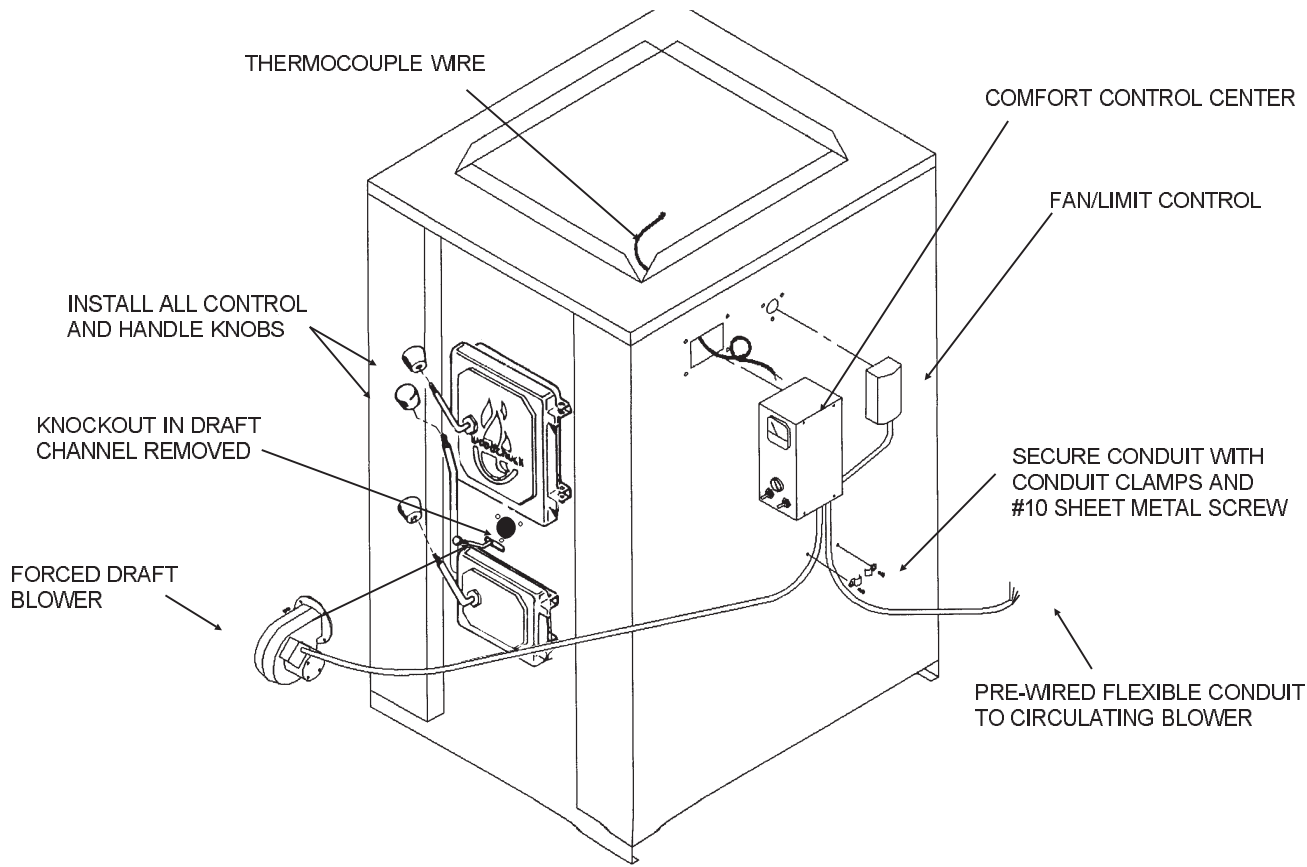

FIGURE 20 INSTALL COMFORT CONTROL CENTER AND FORCED DRAFT BLOWER
1. Install all knobs to control levers and door handles. See figure 20.
1. If you have an optional temperature gauge to monitor heat exchanger temperature in your comfort control center, then the thermocouple wires must be connected to the gauge when installing the control. See figure 20. **IMPORTANT:** Remove the wire ground clip from the terminals of the gauge and connect White wire to + terminal and Red wire to - terminal. See figure 22.